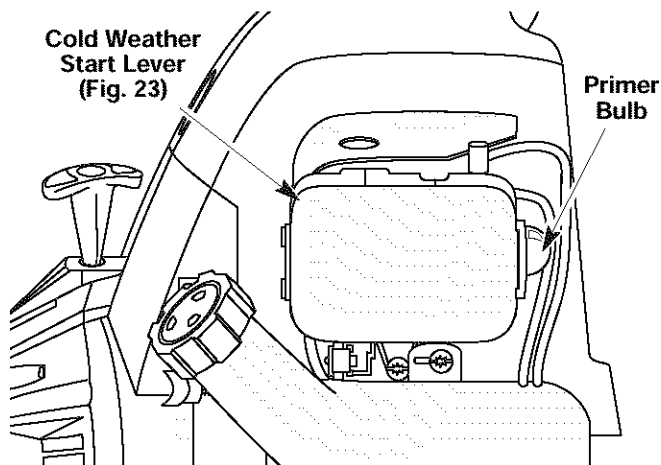

Fig. 21
4. Fully press and release the primer bulb 10 times, slowly, until **FUEL IS VISIBLE IN THE PRIMER BULB** (Fig. 21). If you can't see fuel in the bulb, press and release the bulb as many times as it takes before you can see fuel in it.